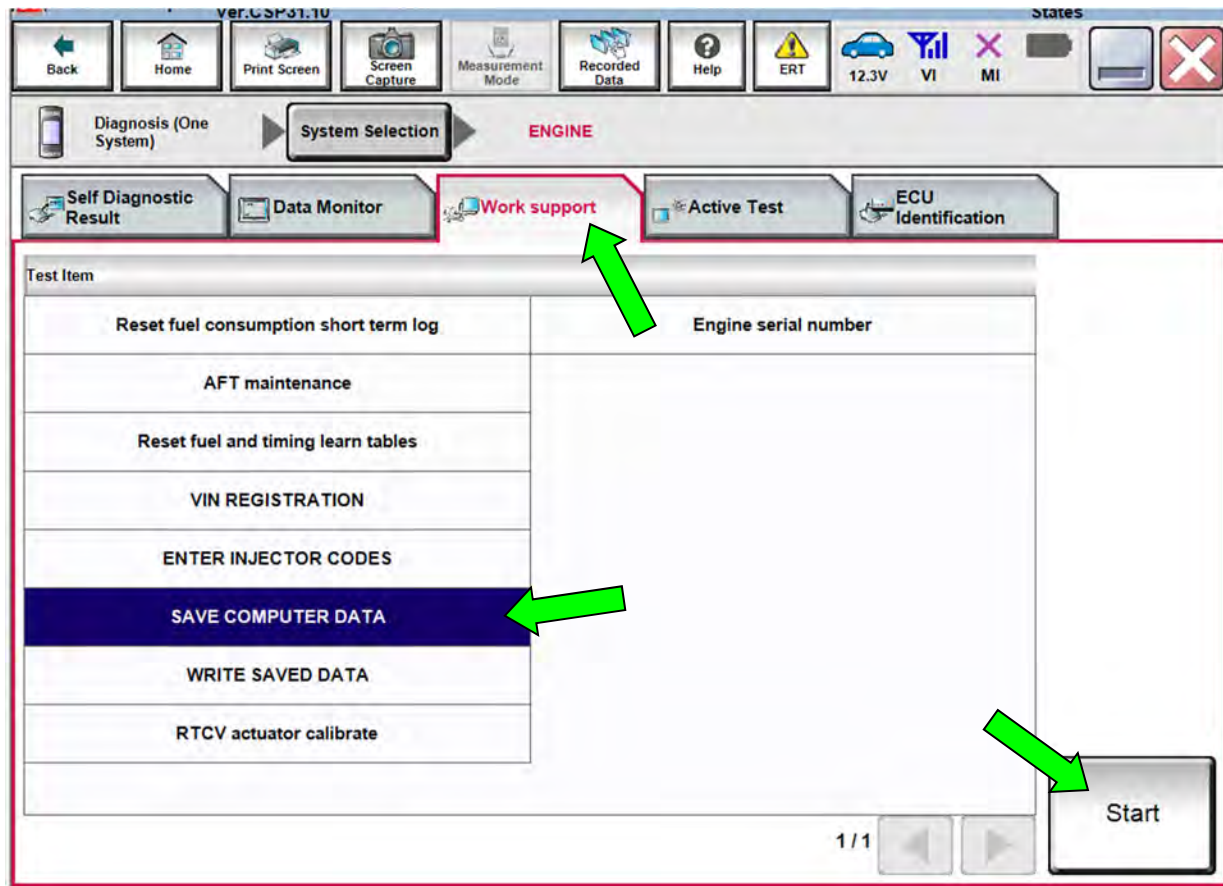

Figure 2
7. Navigate C-III plus to Engine > Work Support (see Figure 2).